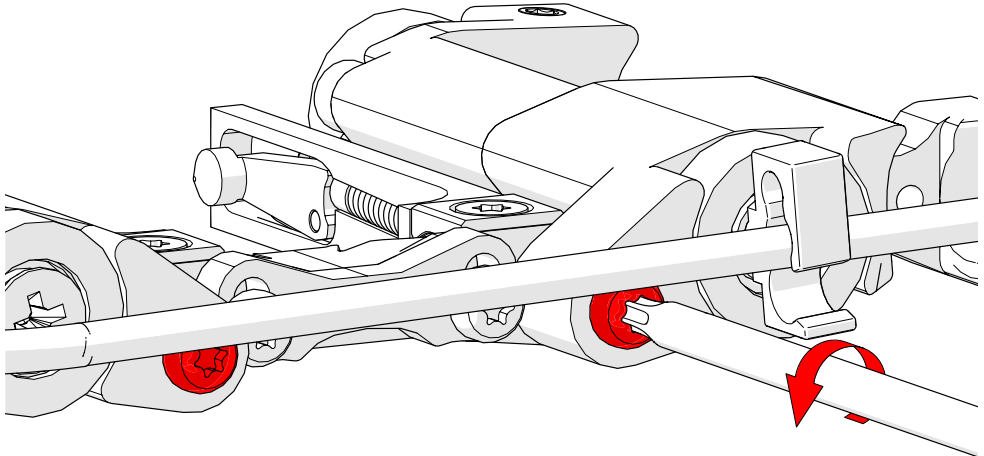

Fig. 51 - Loosen pivot adjustment screws
2. Loosen the pivot adjustment screws (Fig. 51)